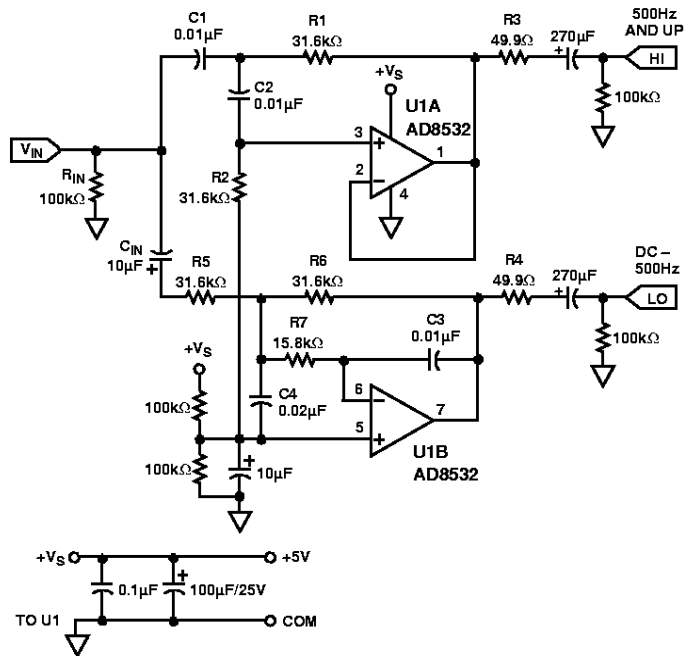

Figure 41. A Single-Supply, Two-Way Active Crossover
Active filters are useful in loudspeaker crossover networks for reasons of small size, relative freedom from parasitic effects, the ease of controlling low/high channel drive and the controlled driver damping provided by a dedicated amplifier. Both Sallen-Key (SK) and multiple-feedback (MFB) filter architectures are useful in implementing active crossover networks. The circuit shown in Figure 41 is a single-supply, two-way active crossover which combines the advantages of both filter topologies. This active crossover exhibits less than 0.4% THD + N at output levels of 1.4 V rms using general purpose unity-gain H P /LP stages.